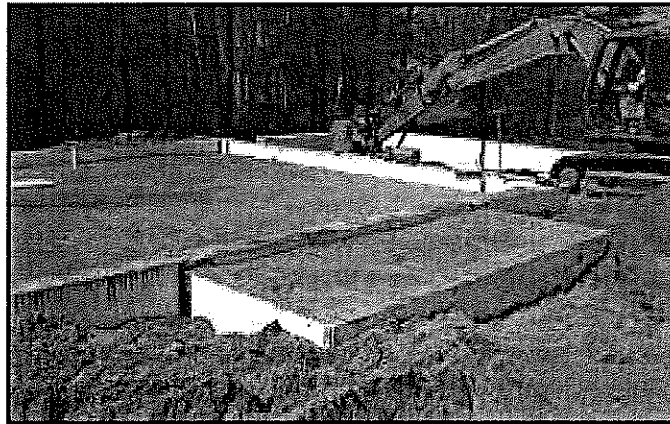

FIGURE 4.3
- 4.3 FIGURE 4.3 below shows the foundation walls of a building that has been completed and workers are busy with backfilling.